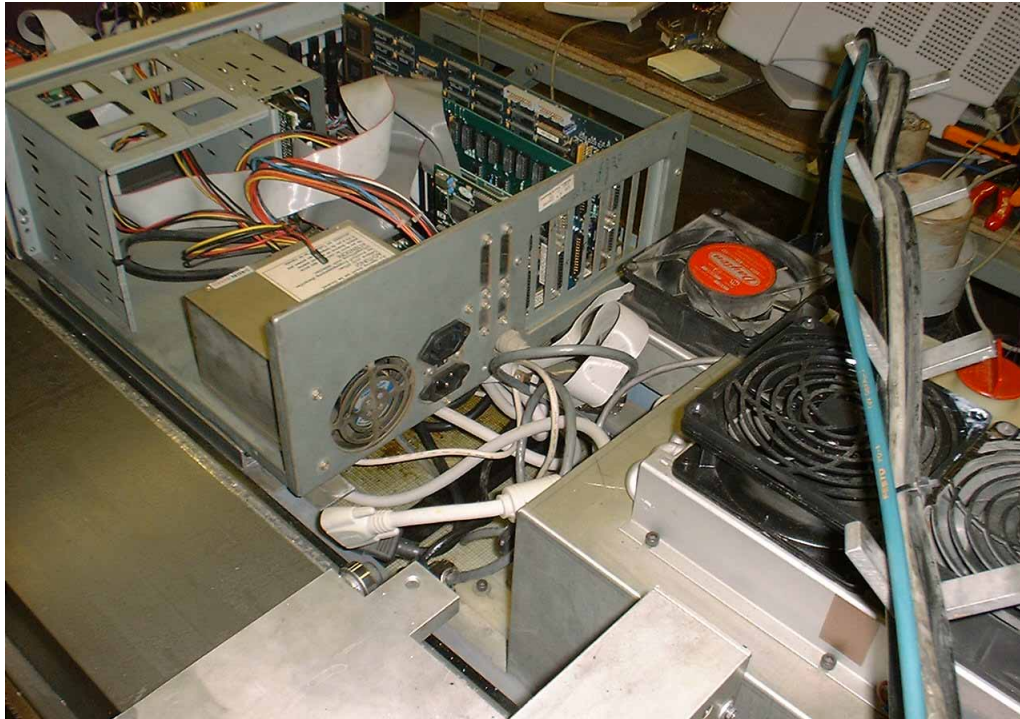

Figure 2: Back of Computer.
- a. Unplug cables from back on computer (see figure 2).